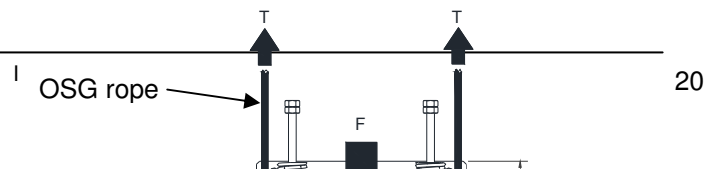

Figure 6 - Tension pulley setup
Check tension pulley for any debris and loose fixings. Also check tension pulley sits within tension indicator (Figure 6 - Tension pulley setup). Activate switch, de-activate pit stop and return to cabin. Access control panel (4.2 Cabin operating panel (COP) removed, pg 4) and check safety chain, chain should be lit to G1 only and feed from G1A to G1B will be lost. Return to ground floor and de-activate tension pulley switch.
Figure 6 shows the working of the tension pulley. Beneath the front plate (removed for clarity in right hand image) two compression springs apply a downwards force (F) onto the pulley, this in turn places tension (T) into the governor rope (i.e. the more the springs are compressed or the smaller dim 'A' becomes, the more tension is placed in the rope). The top of the pulley bracket must lie within the tension indicator slot to ensure correct tension in the rope.